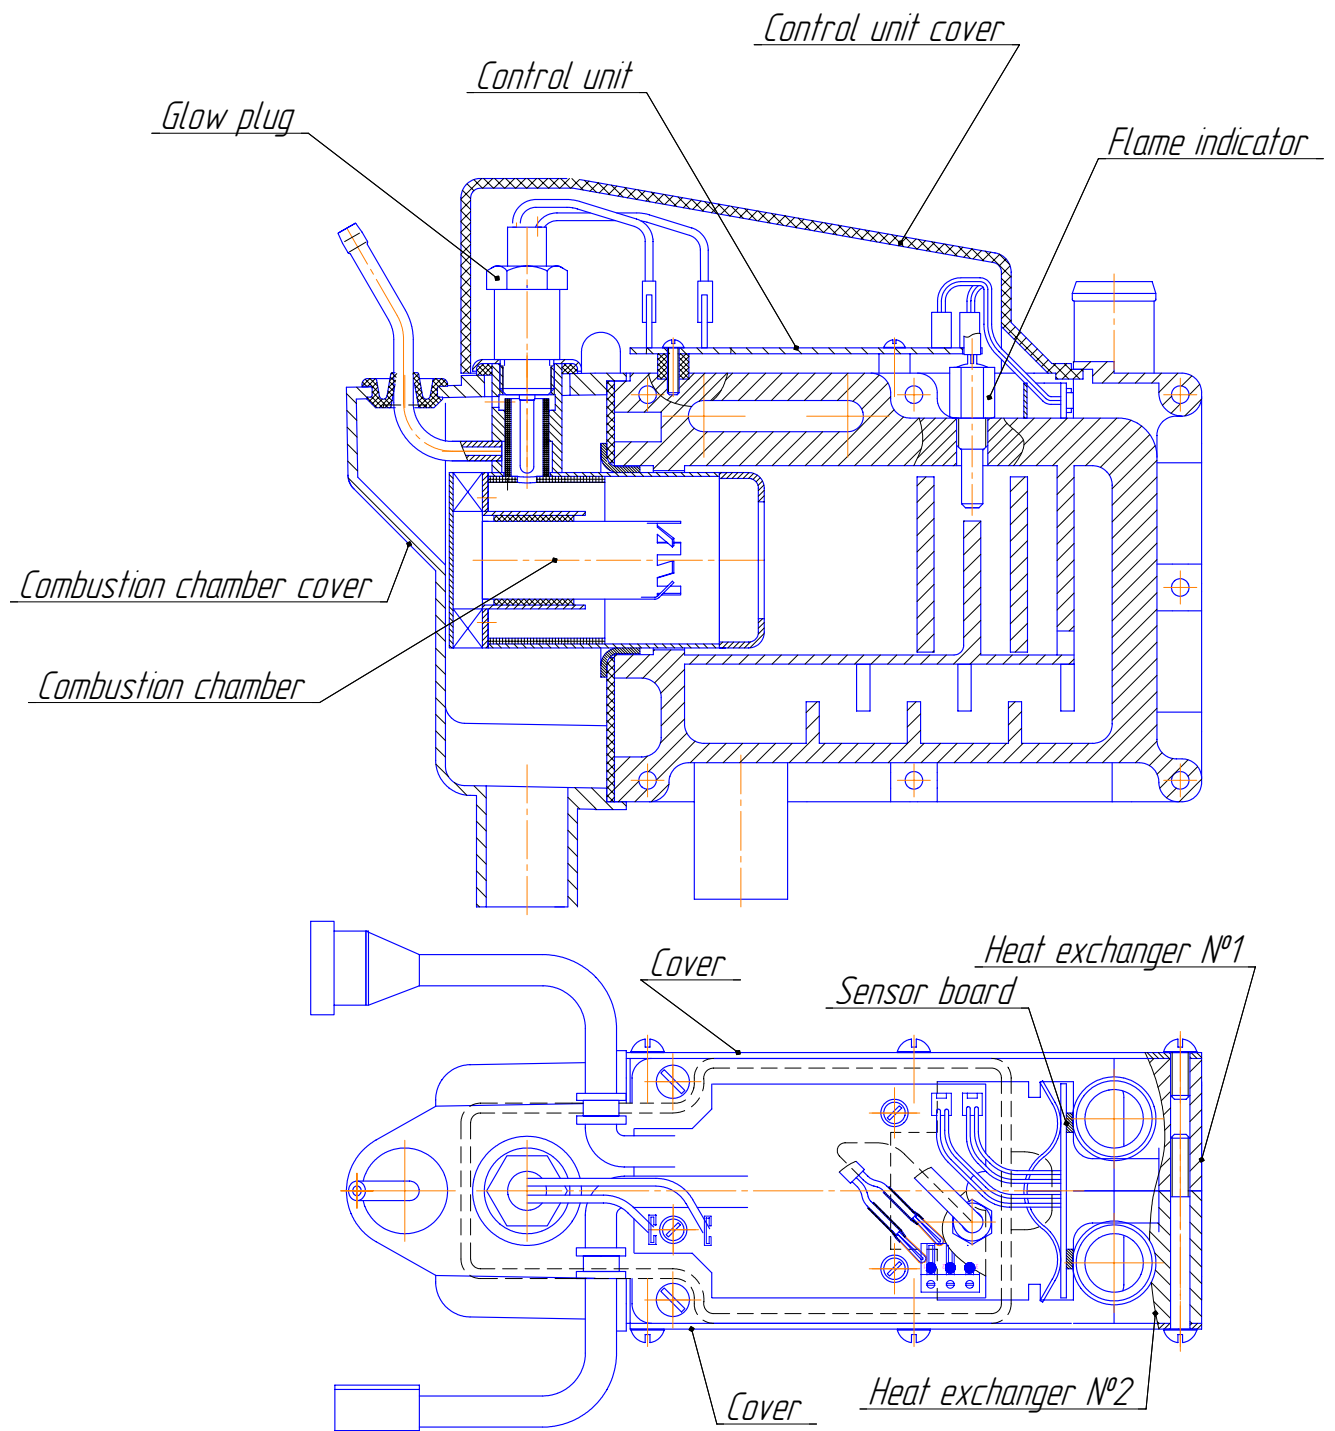

Figure 4.3 – Heater basic components
- Heater (main components are given in Figure 4.3);